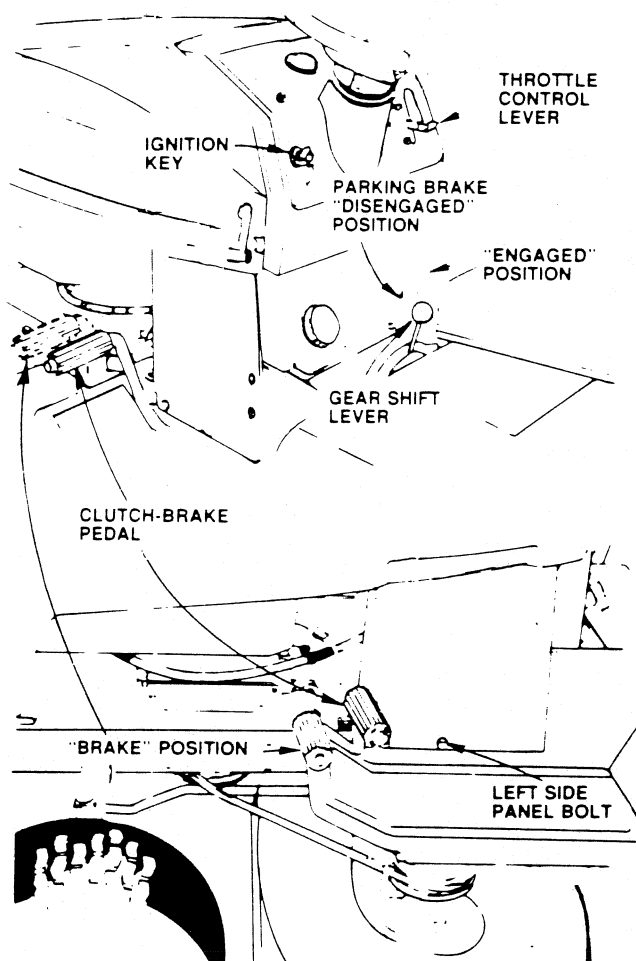

FIGURE 7
- Push clutch-brake pedal into full "BRAKE" position. Keep your foot on pedal (Fig. 7).
- a. Move throttle control lever (Fig. 7) past "FAST" to the "CHOKE" position.